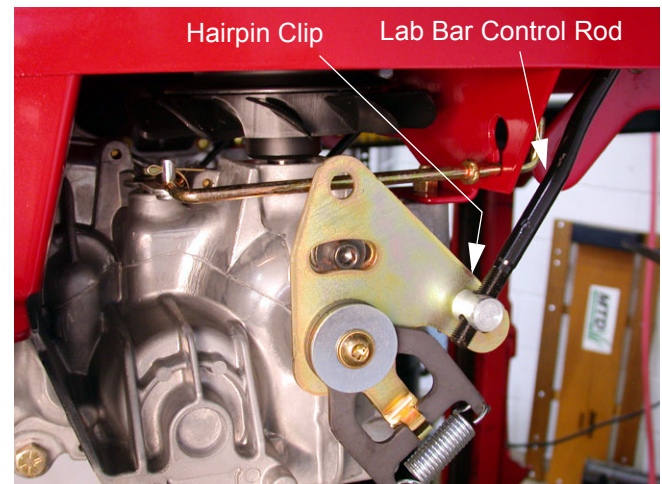

Figure 15.8
- 15.8. From under the unit, remove the hairpin clip securing the lap bar control rod to the hydro return assembly. Disconnect the ferrule from the assembly. Do this for both hydros. See Figure 15.8.